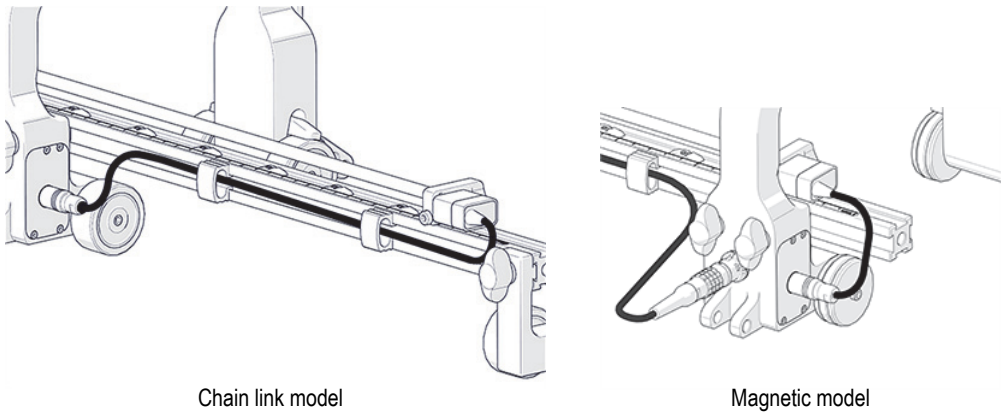

Figure 3-40 Connect the index encoder to the arch
4. Route the cable along the frame bar using the cable clips (see Figure 3-40 on page 63).